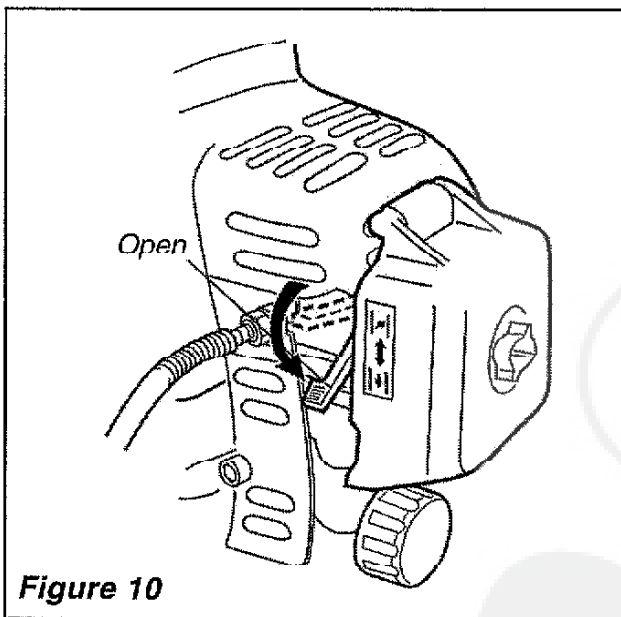

Figure 10
5. When the engine starts, slowly move the choke lever to the "OPEN" position. See Figure 10. (If the engine stops after the initial start, close the choke and restart.)
- The choke lever should be in the OPEN position. See Figure 10.